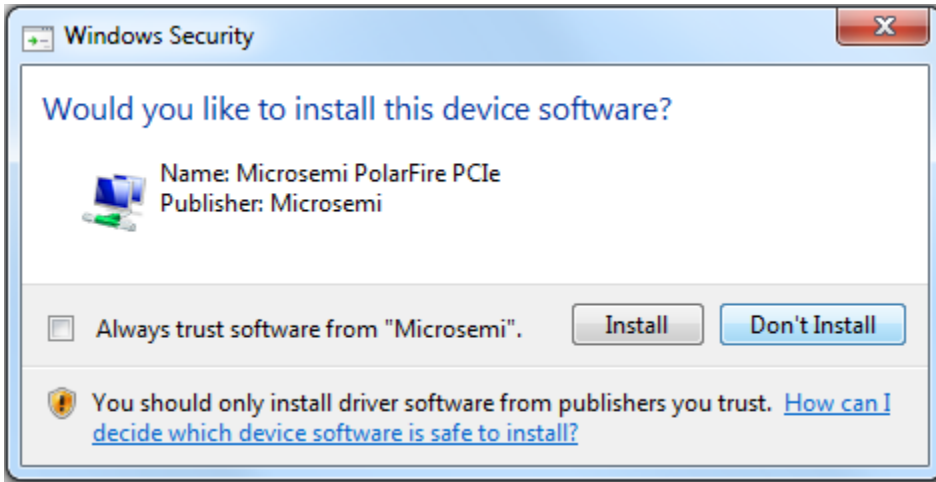

Figure 28: Driver Installation - Windows Security
4. The **Windows Security** dialog box is displayed. Click **Install** as shown in the following figure. After successful driver installation, a message appears. See Figure 28.